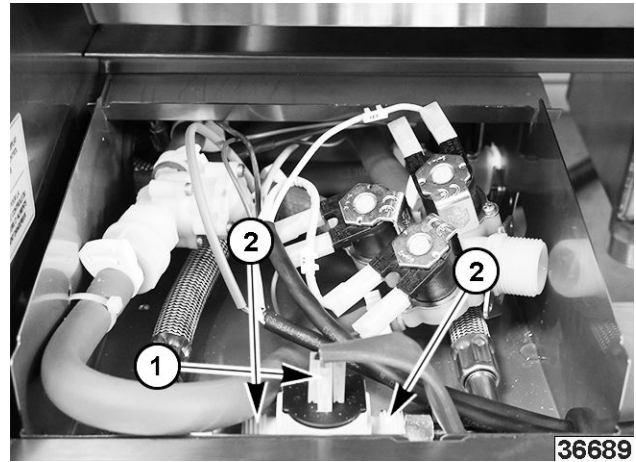

Fig. 25
4. Note and disconnect wires (1, Fig. 25).
5. Remove water lines (2, Fig. 25), while applying supporting pressure.